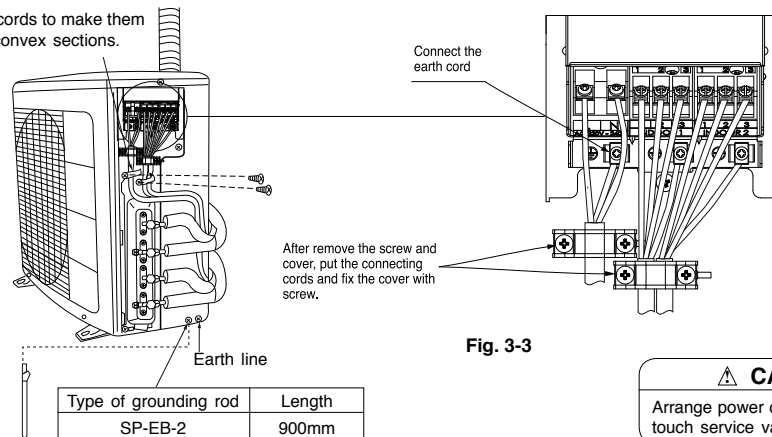

Fig. 3-3
- (2) Connect the connecting cord and power cord to the terminal board. (Fig. 3-3)
- (3) Fix the connecting cords and power cord with steel band certainly. (Fig. 3-3)